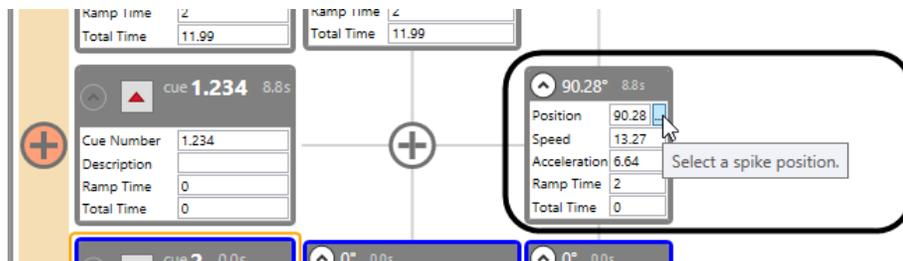

Figure 55
1. Click on the “...” button next to the **Position** field in the *Turntable Movement* panel for *Cue 1.234* (Figure 55).